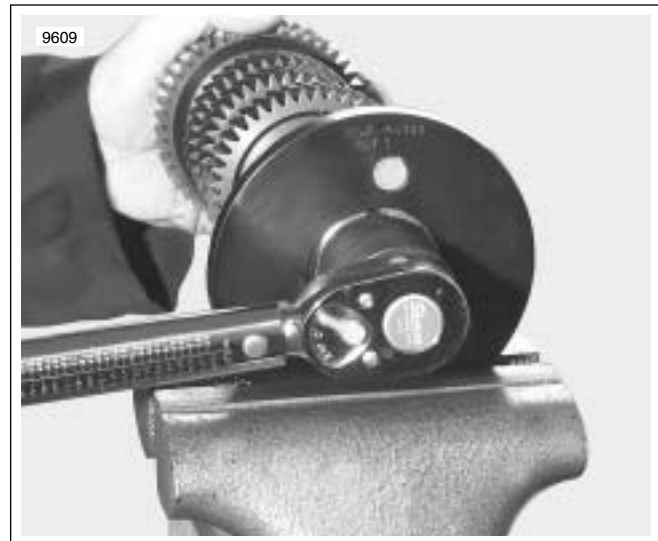

Figure 7-12. Remove/Tighten Output Shaft Nut
10. See Figure 7-12. Remove and discard the **old** output shaft nut.